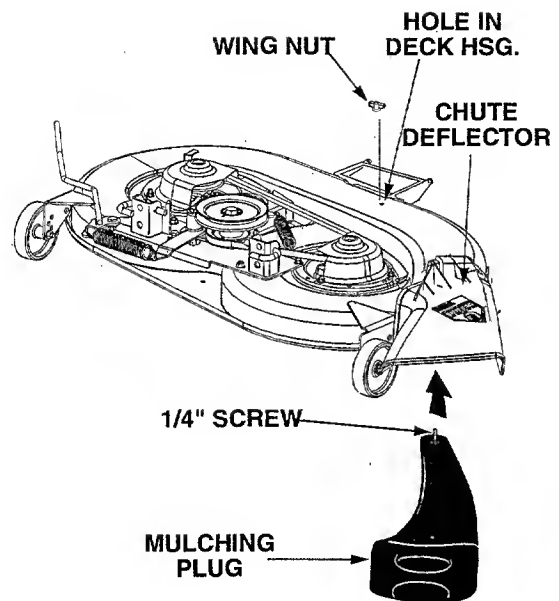

Figure 14
2. Lift the chute deflector upward and insert the mulching plug into the discharge opening of the deck (Refer to Figure 14).
3. Position the mulching plug so that the 1/4" screw at the inner end of the plug can be inserted up through the hole in the top of the deck housing. Secure with the wing nut (See Figure 14).